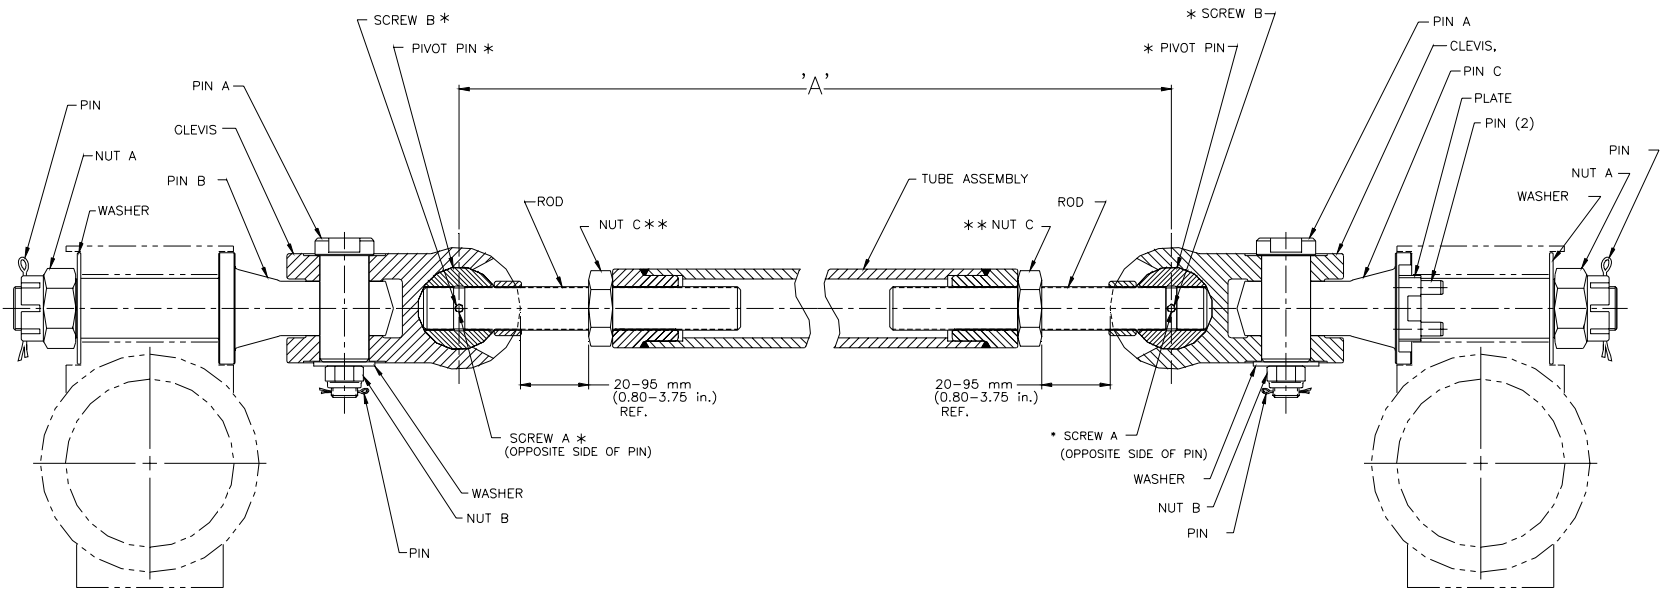

Figure 28. Tie Bar Assembly
9. A steering tie bar is required for twin drive installations. When ordering the tie bar, specify drive centerline-to-centerline distance. Installation of the tie bar is per Figure 18 using the mounting hardware provided. Adjust the length of the tie bar as required to make the drive thrust housings parallel. Torque tie bar jam nuts as shown on Figure 28. Comply with all requirements and torque values shown in Figure 28.